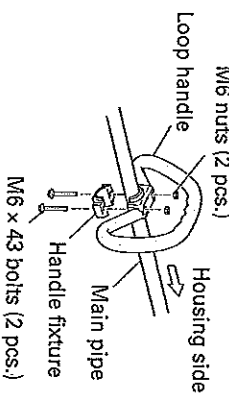

Fig. 7
1. Installing the loop handle (Fig. 7)